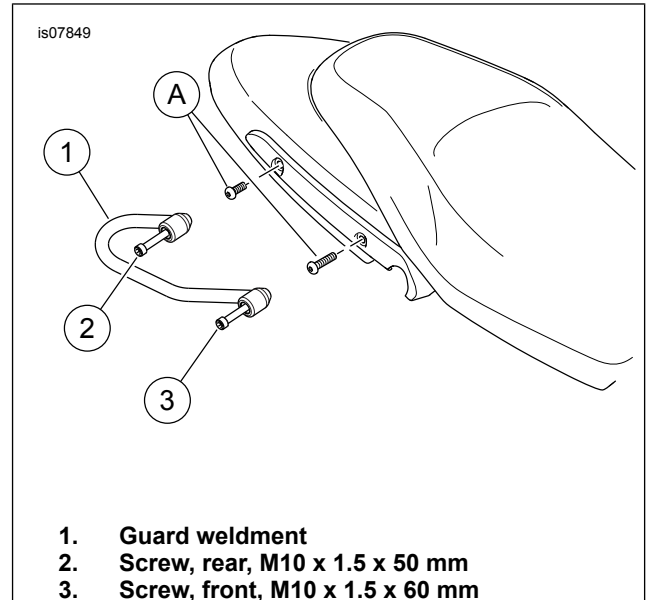

Figure 1. Install Guard
1. See Figure 1. Remove two screws (A). Retain screws to return vehicle to original configuration in the future.